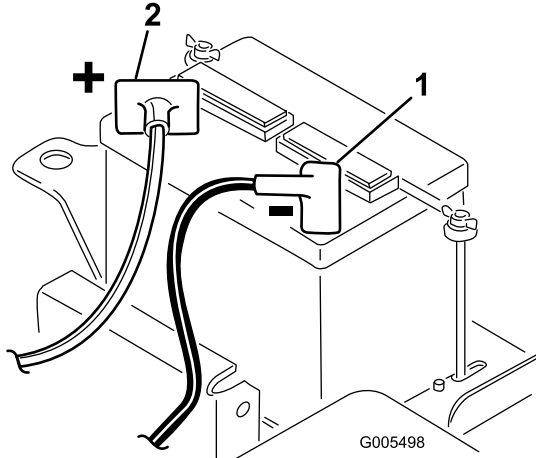

Figure 10
2. Connect the positive battery cable (red) from the starter solenoid to the positive post (+) of the battery (Figure 10). Secure it with a wrench and coat the terminal with petroleum jelly. Make sure the cable will clear the seat, in the rear-most position, which could cause wear or damage to the cable.